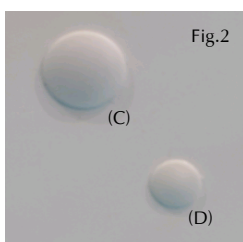
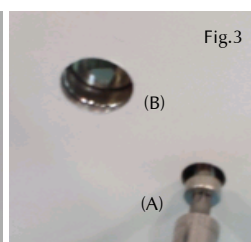

Fig.2
Fig.3
- 4.8(b) Remove white plastic bungs (C) & (D). (Fig.2)
- 4.8(d) Remove locking screw (A) using 4mm allen key. (Fig.3)
- 4.8(i) Insert locking screw (A) and tighten using 4mm allen key. (Fig.3)
**IMPORTANT: DO NOT** power motor without securing locking screw (A). Please ensure locking screw is fully engaged and tightly fitted as this secures the motor in place and prevents damage to the unit.
- 4.8(j) Refit white plastic bungs (C) & (D). (Fig.2)